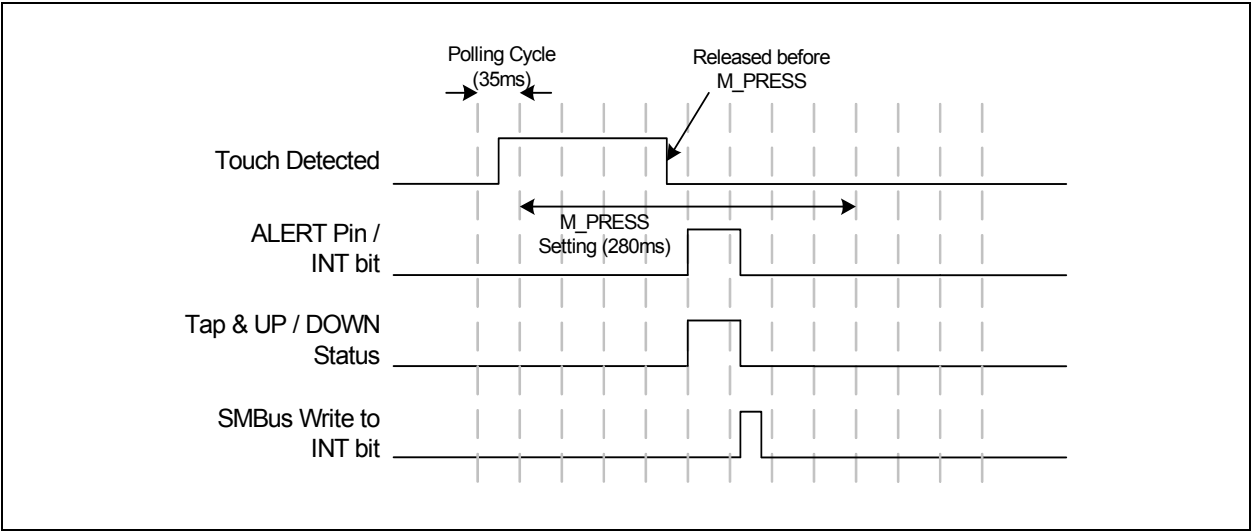

Figure 5.4 Tap Interrupt Behavior
2. For a tap event there are no further interrupts. See Figure 5.4.